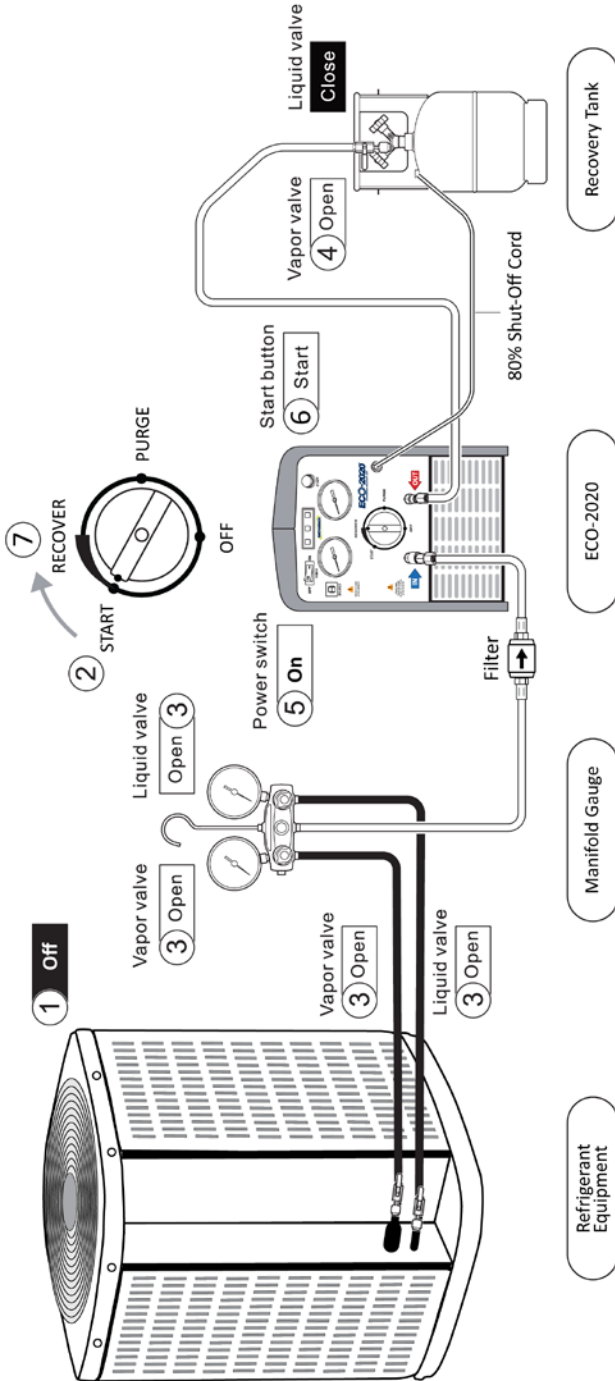

Figure 7. Recovery Configuration
**IMPORTANT:** Make all hose connections as shown in Figure 7. Ensure that all connections are correct and secure.